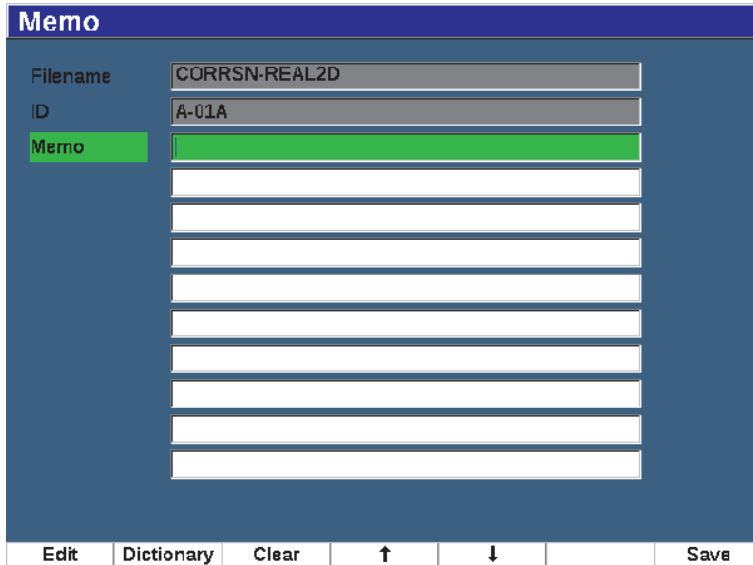

Figure 10-14 Memo setup page
2. Press **Edit** (P1 key) and use the on screen keypad to add information (see Figure 10-14 on page 217).